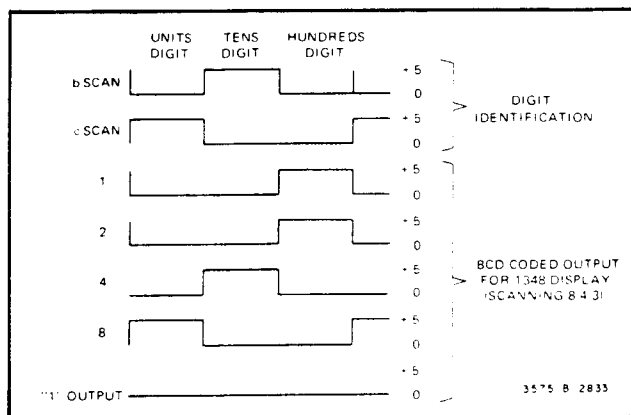

Figure 4-14. Scanned Panel Meter Output.
4-83. Figure 4-14 illustrates the scanned digital information as it appears at the output of the phase panel meter. In Figure 4-14, the output data corresponds with a phase reading of +134.8 degrees. The first digit, a one, is indicated by a grounded "1" line. The three remaining digits are scanned from right to left (8, 4, 3) and are synchronized by the two scanning signals, "b" scan and "c" scan. The scanning signals indicate which digit is being
4-85. Referring to Figure 4-14, note that the "units" digit (8) is transmitted when "b" scan is low and "c" scan is high. This condition is detected by the logic circuits (IC2, IC3) which enable IC7 and disable IC4 and IC5. The BCD data being transmitted is then stored in IC7 and applied to pins 1, 2, 26 and 27 of the Interface connector. As the scanning sequence continues, the "tens" digit (4) is stored in IC5 and the "hundreds" digit (3) is stored in IC4. The resulting outputs at the Interface connector are three BCD coded digits, a single line overrange ("1") digit and a polarity sign.